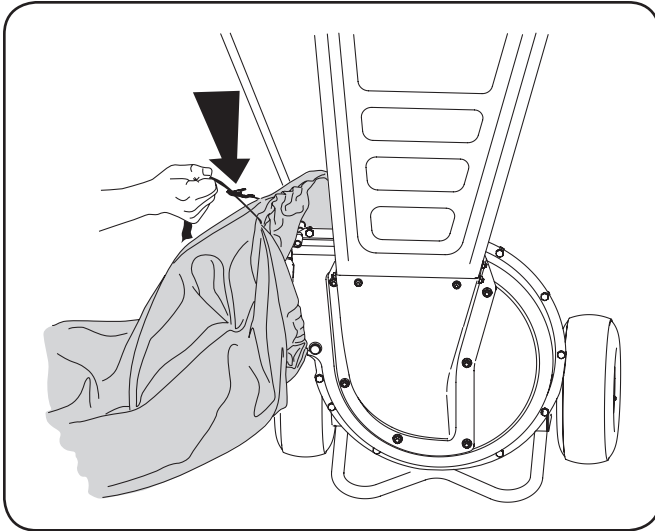

Figure 5-2
2. Squeeze the locking buckle to release the bag's drawstrap before loosening it from the chute deflector. See Figure 5-2.